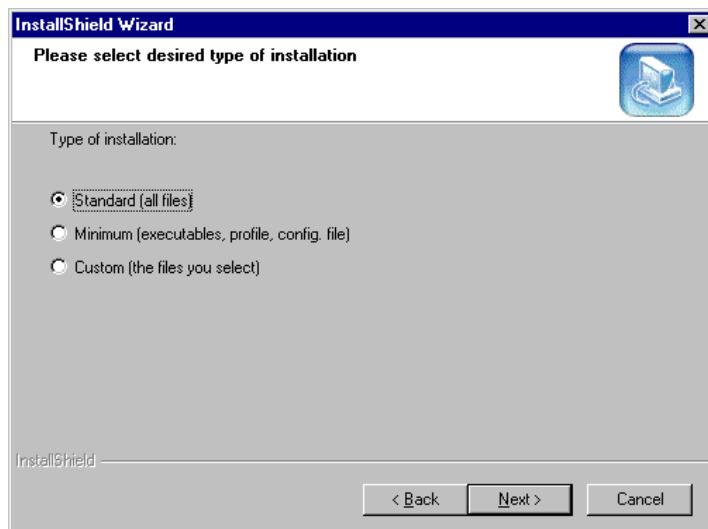

Figure 69. Selecting type of installation
5. Select the standard type of installation (Figure 69)